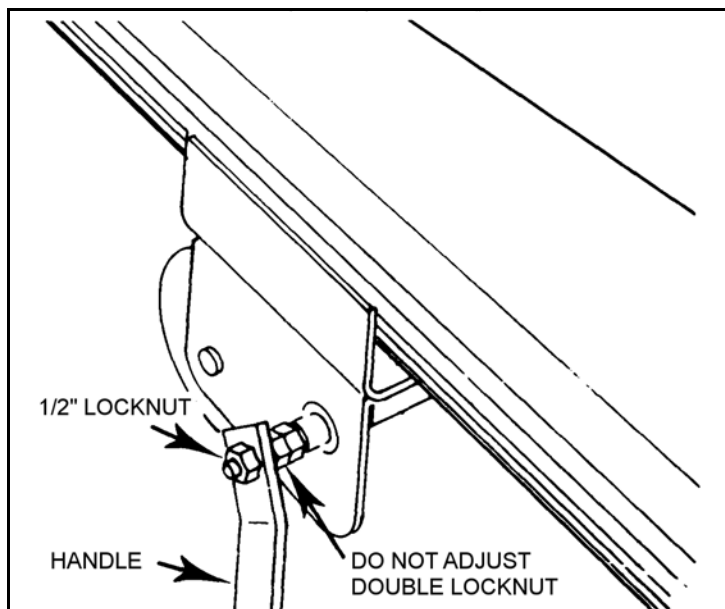

Figure 3.14
2. Fasten with 1/2" locknut ( Figure 3.14).